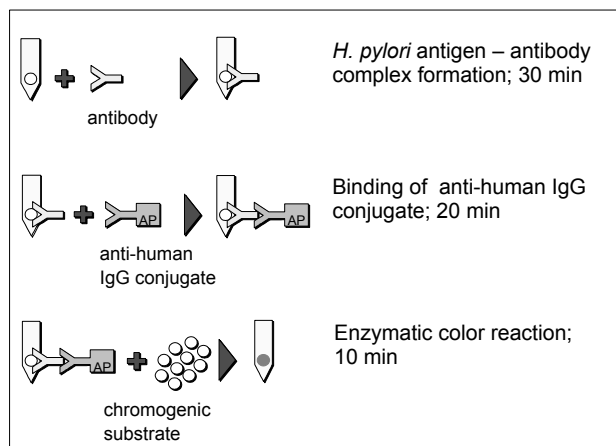

Figure 1. Principle of the test
At the outset of the test, serum or plasma specimens are prediluted 1:11 and added to the diluent in the wells of row A of the Developing Plate. The Card is then inserted into the wells of row A. Antibodies to *H. pylori*, if present in the specimens, will specifically bind to the *H. pylori* antigens on the lower spot on the teeth of the Card (Figure 1). Simultaneously, immunoglobulins present in the specimens will be captured by the anti-human immunoglobulin on the upper spot (Internal Control). Unbound components are washed away in row B. In row C the anti-*H. pylori* IgG captured on the teeth will react with anti-human IgG labeled with alkaline phosphatase (AP). In the next two rows, unbound components are removed by washing. In row F, the bound alkaline phosphatase reacts with chromogenic components. The results are visible as gray-blue spots on the surface of the teeth of the Card.